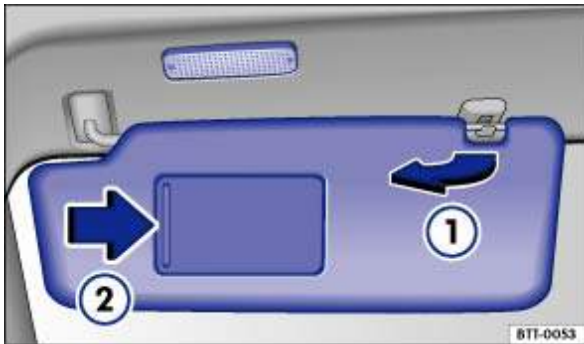

Fig. 75 Sun visor
- Pulled out of the bracket and swung over towards the door → Fig. 75 .
There is a vanity mirror behind a cover on the inside of the sun visor. When you open the cover → Fig. 75 , a lamp lights up.